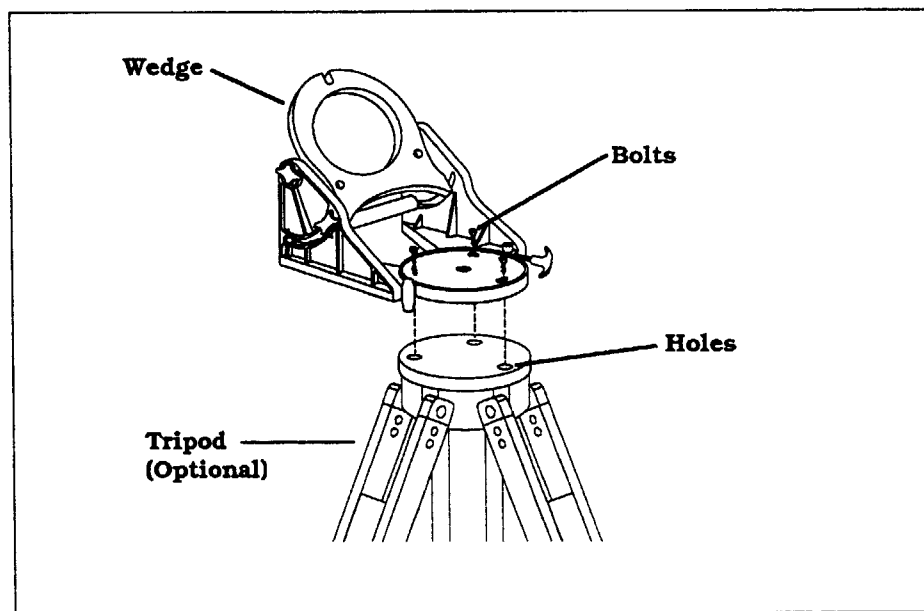

Figure 4-3
2. Thread the three 5/16-18x1" hex head bolts into the holes until tight (see figure 4-3).